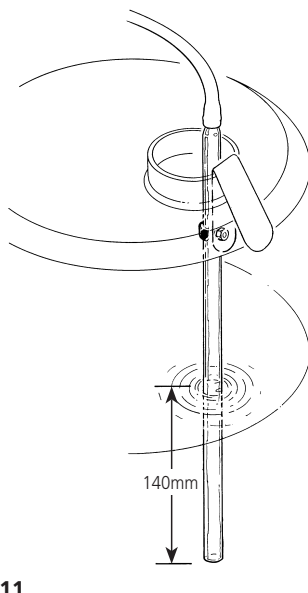

Fig 11
Reservoir Control (fig. 11)
Lower the glass pressure bell WFB, fig. 11, into the distillate to a depth of 150mm. This will switch off the heating element immediately and the cooling water after 7 minutes. Raising the bell will cause both to be re-supplied.
Each Aquatron water still is supplied with a RESERVOIR LEVEL CONTROL, I/D4000/WLS, fig. 11. This automatically switches off the heating elements and coolant water supply when the distillate collection reservoir is filled with distilled water.
- 2 Take the Reservoir Level Control I/D4000/WLS and connect the free end of the rubber tubing to the nozzle, item 13, of the reservoir pressure switch located on the side of the cabinet.
- 3 Use the metal clip to fit the glass pressure bell inside the distillate collection reservoir. Refer to fig. 11.